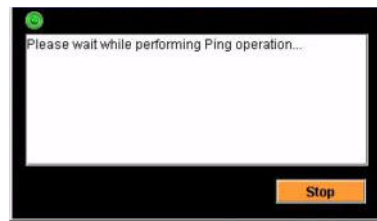

Figure 5-14 Performing Ping Test Window
- c. Next, the AIM performs a standard ping test with the BSU, displaying the window shown in Figure 5-14.